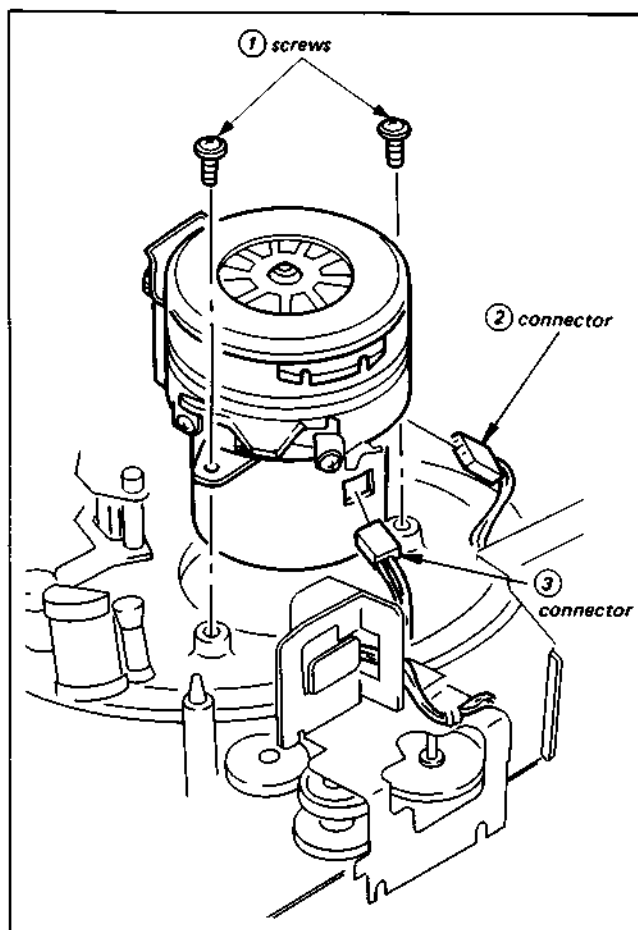

Fig. 3-3. Replacement of drum ass'y (1)
- 1) Remove the two screws ① and connectors ② and ③ shown in Fig. 3-3. The drum assembly can then be removed.